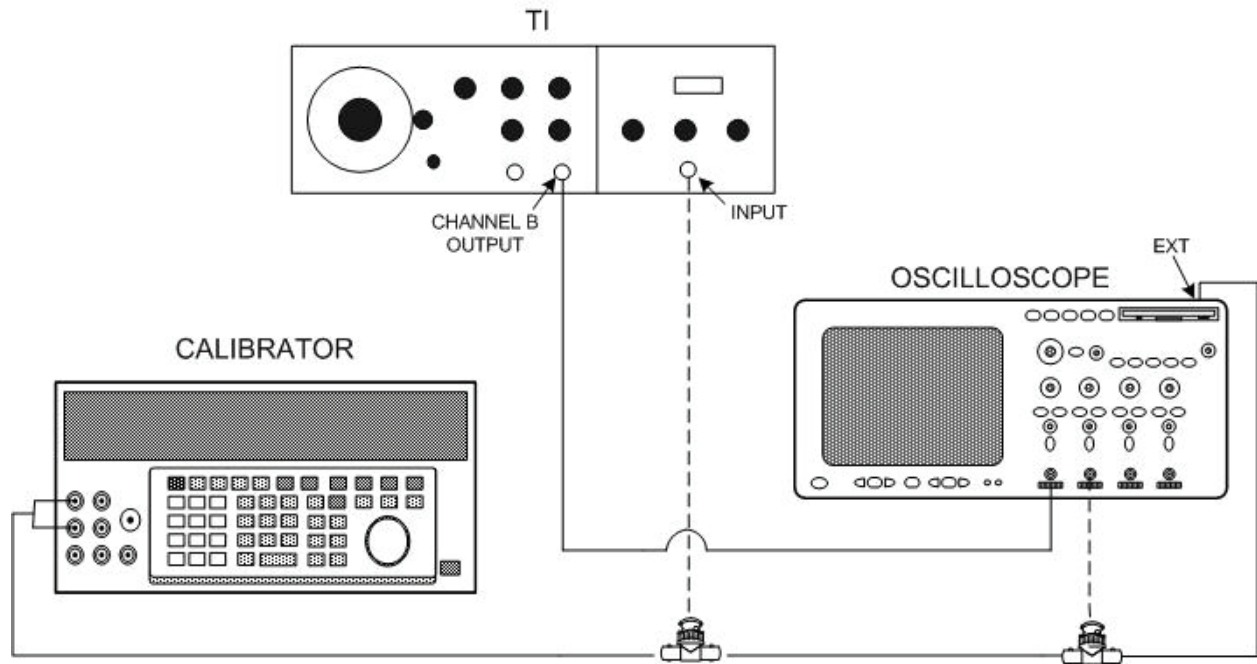

Figure 3. Single and multiple cycle - equipment setup.
- (1) Position controls as listed in (a) through (e) below:
- (2) Connect equipment as shown in figure 3.
- (3) Set oscilloscope **VERTICAL MODE** switch to **ALTERNATE** and horizontal **TRIGGER SOURCE** switch to **EXTERNAL**.
- (4) Adjust calibrator frequency for 10 kHz and amplitude for 4.242 V rms.
(1) Connect equipment as shown in figure 3.
(2) Position controls as listed in (a) through (e) below: